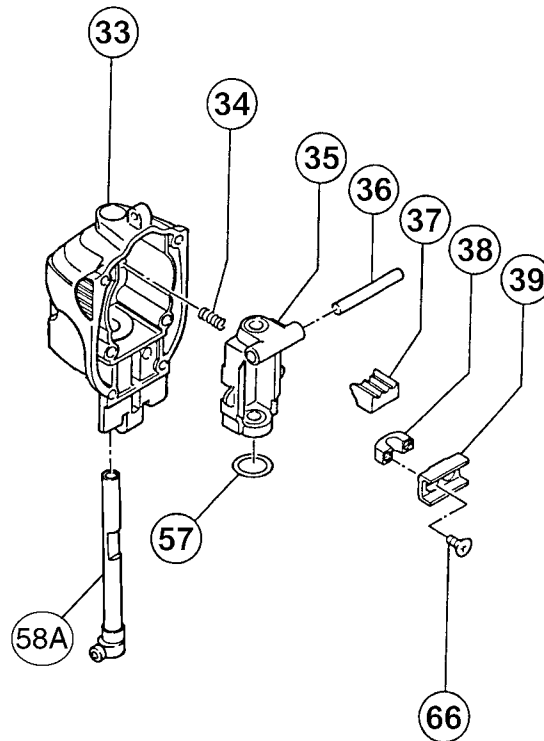

Fig. 6
- (4) Removal of the Plunger [58A] and the Plunger Holder Ass'y [35] from the Upper Cover [33] (Fig. 6)